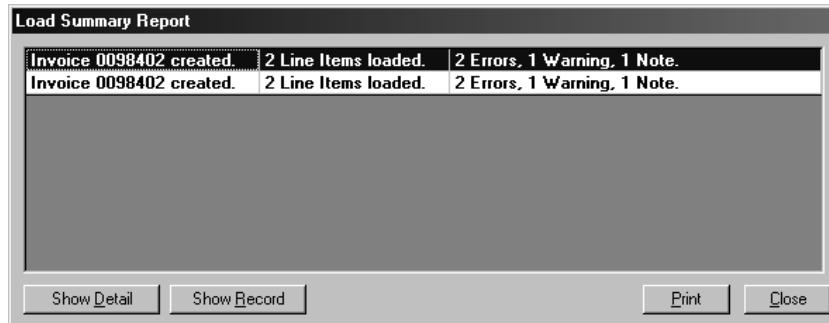

Figure 15-8. Load Summary Report list box
- If you click **Yes**, the **Load Summary Report** list box opens (see Figure 15-8).